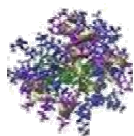

Figure 7: Representative structure of 4FB-R-PE.
2. Add calculated volume of 4FB-R-PE (Figure 7) to the HyNic-antibody solution. SoluLink recommends a 1.25/1.0 4FB-R-PE/HyNic-Antibody ratio but this may be changed as desired.